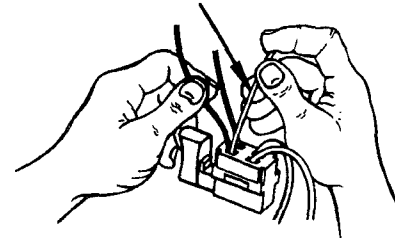

Fig. 15
2. Remove the switch from the handle and disconnect the cord leads from the switch. See *Figure 15*.